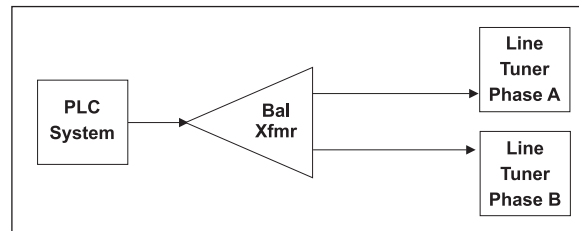

Figure 7-6.
- If required, to split signals instead of combining, a balance transformer is used. The balance transformer is equal to a balanced hybrid in reverse. This is done to split signals for phase-to-phase coupling to two different phases of the power-line. (See Fig 7-6)